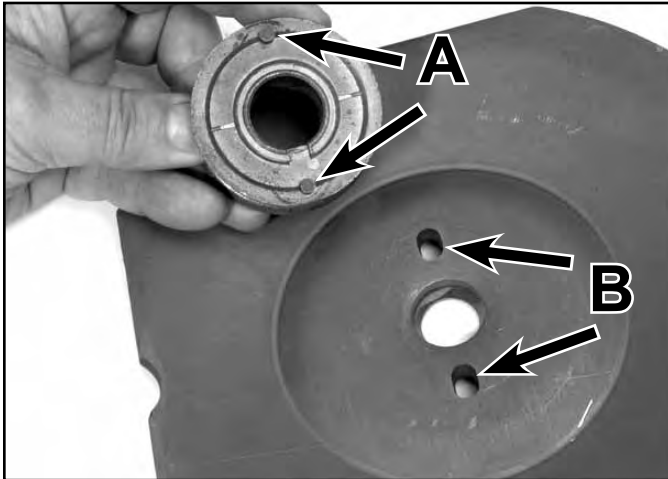

Fig 226
1. Start by installing the key and self-propel pulley. The two bumps on the pulley should face you (Fig. 226). Slip the belt over the pulley.